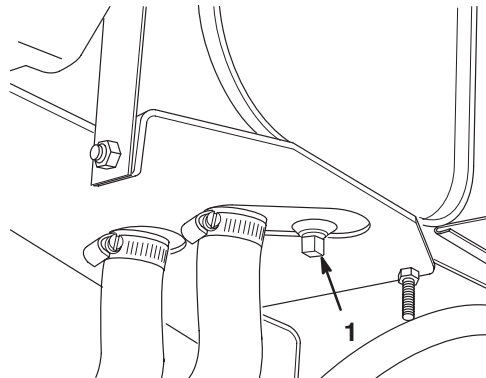

Figure 41
- Remove the drain plug from the reservoir (Fig. 41) and let hydraulic oil flow into a drain pan. Reinstall and tighten the plug when hydraulic oil stops draining.